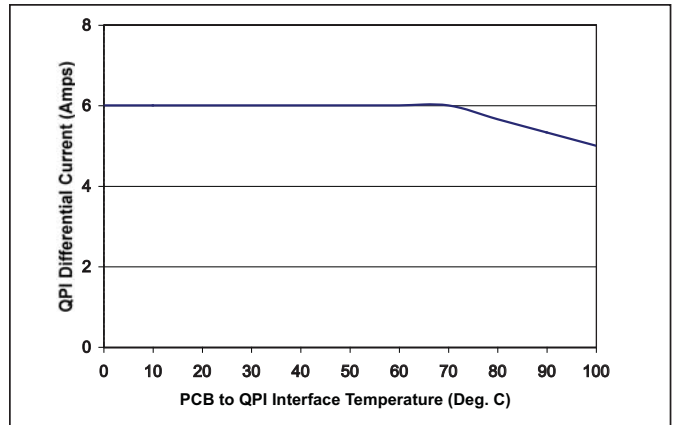

Figure 5 – QPI-7 current derating curve over temperature.
- -40° to +100°C PCB temperature (See Figure 5)
Note 3: Refer to Figure 5 for current derating curve.
The QPI-7's high-temperature 6 amp rating provides filtering for up to 144 watts of power from a 24 V bus with a 70°C PCB temperature. The 1.0" x1.0" x 0.2" surface mount LGA package provides ease of manufacturing by eliminating through-hole assembly. The current de-rating curve shown in figure 5 should be used when the PCB temperature that the QPI-7 is mounted to exceeds 70°C.